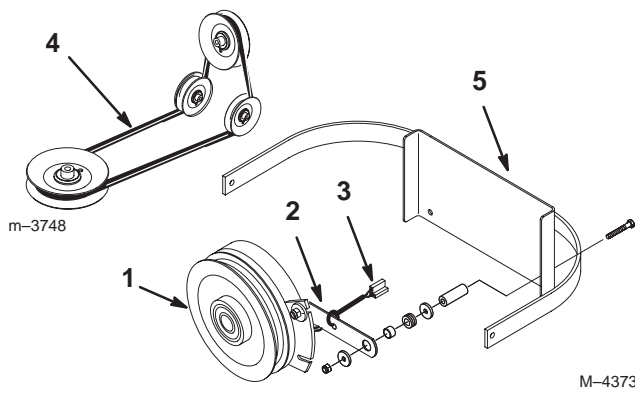

Figure 61
2. Remove the clutch retaining strap from the machine frame and unplug the clutch terminal from the wire harness (Fig. 61).
7. Install the clutch retaining strap and plug the clutch terminal into the main wire harness (Fig. 61).